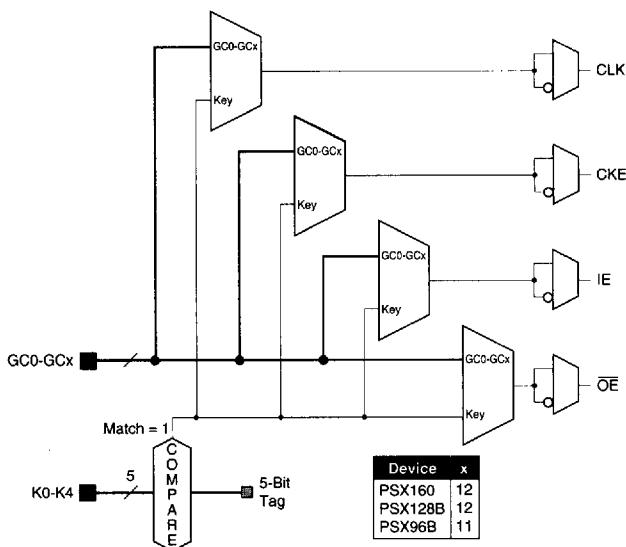

Figure 9: I/O Control
The PSX family has a flexible control structure that gives the user complete control over the behavior of each I/O Port. As shown in Figure 9 and described below, clock (CLK), clock enable (CKE), input enable (IE) and output enable ( $\overline{OE}$ ) for each I/O Port can be selected from two different sets of control inputs. The control polarity can be individually selected.